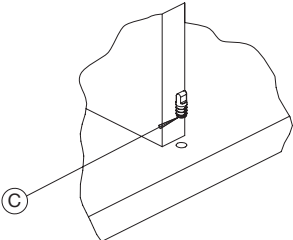

Fig. 3
2. (If not factory installed) Using a hammer, insert the press-fit guide(s) (C) into the factory drilled hole(s) on the inside surface of the bottom shelf oriented with the flats of the guide parallel to the front edge of the bottom shelf. (Fig. 3)